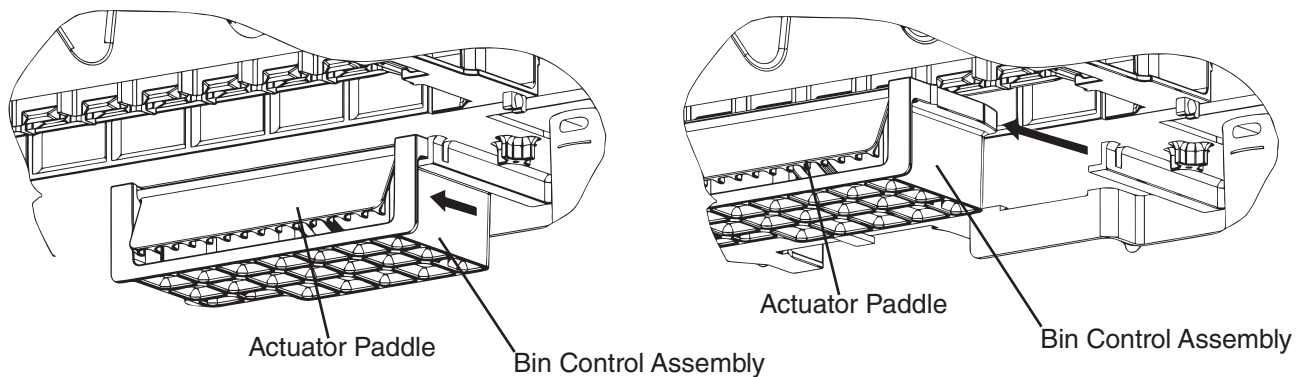

Fig. 2
- 4) Hold both sides of the mechanical bin control, then pull forward and remove. See Fig. 2.